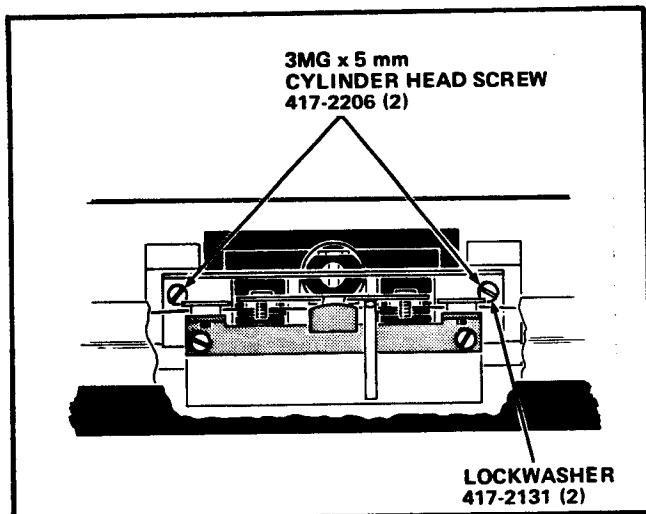

FIGURE 28
2. Center the Push Button Assembly in the Channel and attach the Push Button Assembly to the Channel with the two 3MG x 5 mm Cylinder Head Screws, Part Number 417-2206, and the two small Lockwashers, Part Number 417-2131, both included in the Kit. See Figure 28. These Screws attach the replacement Push Button Assembly in the same way the original Push Button Assembly was attached, through the Button Bracket into the Channel.